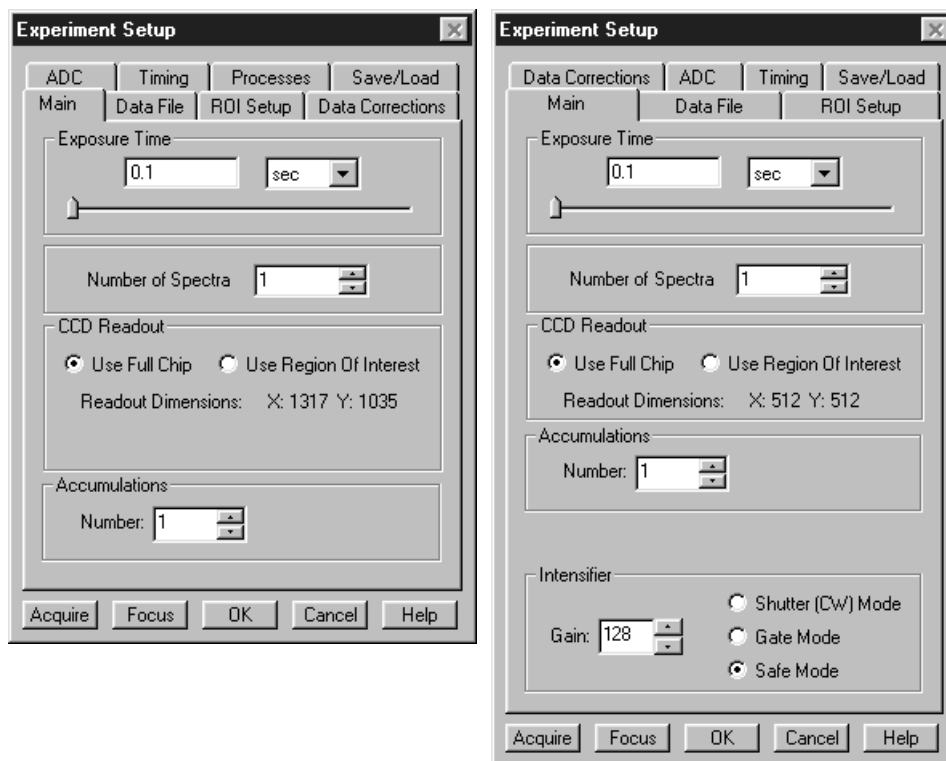

Figure 32. Experiment Setup dialog box Main tab page; left, all but PI-MAX; right, PI-MAX
1. Open the Experiment Setup dialog box (Figure 32) from the Acquisition menu.